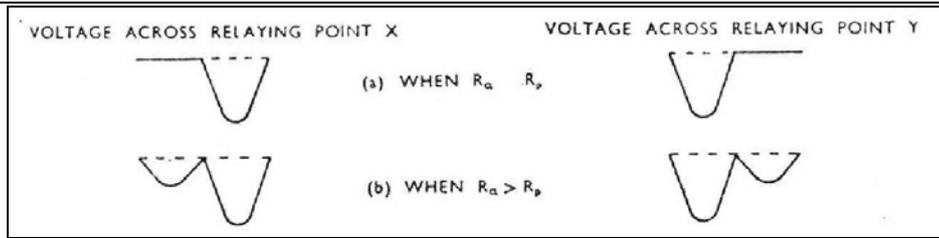

FIG X.3.-Voltage across relaying points X and Y during one cycle of external fault current
- These diagrams indicate also the resulting potential-gradient between pilot cores when R_a is equal to R_p and it will be seen that the voltage across the relays at points X and Y is either zero (because the relay is at an electrical mid-point) or in the reverse direction for conduction of current through rectifier M_3 . Therefore, when $R_a = R_p$, a reverse voltage appears across the relay circuit during one half-cycle and zero voltage during the next. The voltage across each relaying point X and Y during a complete cycle is shown in Fig. X.3 at (a).
- o In practice, resistors R_a are made greater than the pilot loop resistance R_p and this causes the point of zero potential to occur within resistors R_a as shown in Fig. X.4 and the voltage across X and Y throughout a complete cycle is now that shown at (b) in Fig. X.3.